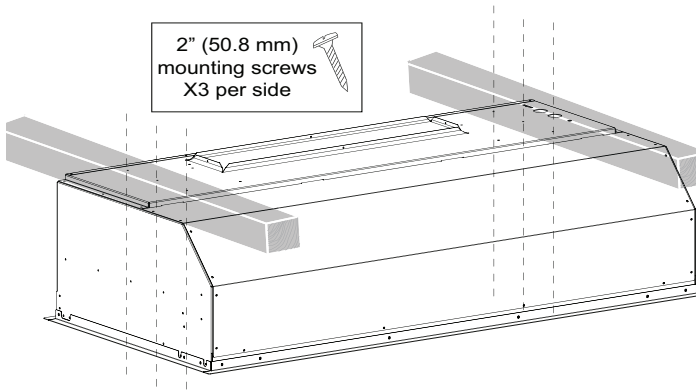

Figure 27: VCIN Side Screws
- c) Secure to the sides of the housing framework using six (6) x 2" (50.8 mm) mounting screws, 3 per side as indicated in *Figure 27*.